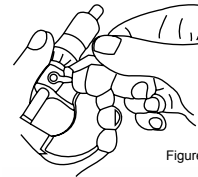

Figure 1
- When the alignment error is ±0.01 mm or less (Figure 1 and 2) Insert the supplied key spanner into a hole on the back of the reference line on the sleeve, and turn the sleeve to align the reference line with the zero graduation line on the thimble.